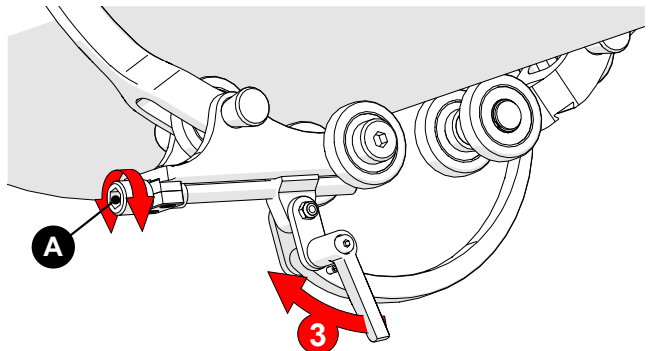

Fig. 99 - Adjust pressure of buckle
6. Bring the buckle arm (Fig. 98-1) towards the catch link (Fig. 98-2). Hook the buckle's arm to the middle axle of the catch link. The buckle adjustment knob (Fig. 99-A) may have to be loosened to allow the arm to reach the catch link.
7. Rotate the knob until the buckle's lever can be pushed down, locking the buckle in place (Fig. 99-3). The tightness of the **ROTIX** on the pipe can be adjusted using the buckle adjustment knob (Fig. 99-A).